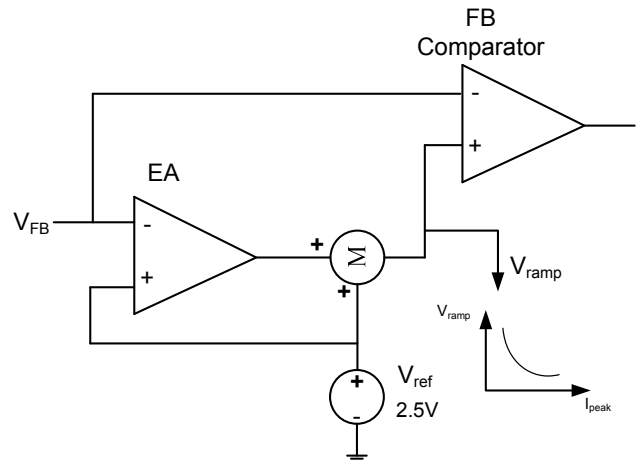

Figure 5: EA and Ramp Compensation
To improve load regulation, the MP150 implements an error amplifier (EA) compensation function (Figure 5). The MP150 samples the feedback voltage 6 μs after the MOSFET turns off. EA compensation regulates the 2.5V reference voltage with the load, thus improving the power module regulation.
An internal ramp compensation circuit precisely maintains the output voltage. An additional exponential voltage sinking source pulls down the feedback comparator's reference voltage as shown in Figure 5. The ramp compensation is relative to the load conditions: Under full-load conditions, the compensation is ~1mV/ μs ; With a